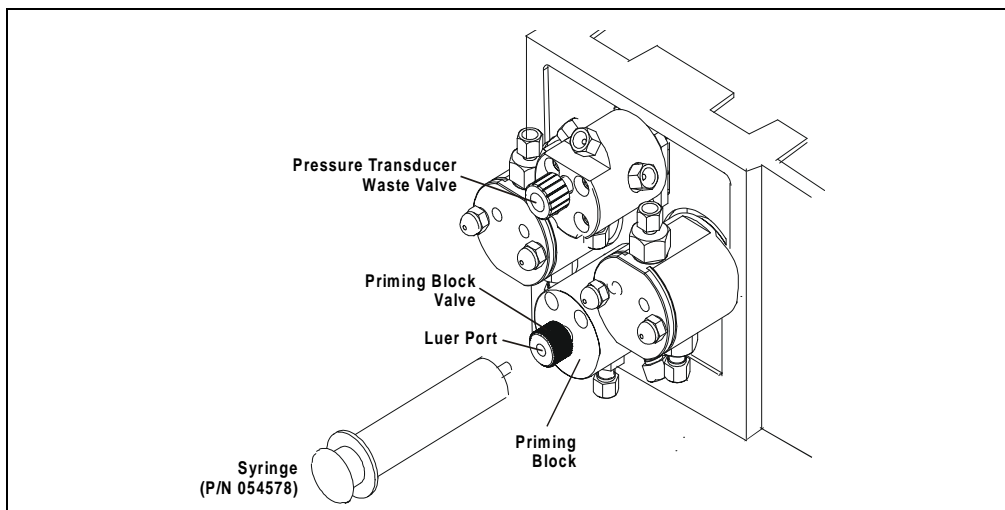

Figure B-4. Priming the Pump
3. Connect a 10 mL syringe (P/N 054578) to the luer port in the priming block. Turn the priming block valve counterclockwise one turn (see Figure B-4).
7. When the pump has been primed thoroughly, turn the priming block valve counterclockwise until closed (see Figure B-4). Do not overtighten.
1. Connect a 10 mL syringe (P/N 054578) to the luer port on the priming block (see Figure B-4).
2. Open the pressure transducer waste valve (see Figure B-4) by turning the knob counterclockwise about two turns.